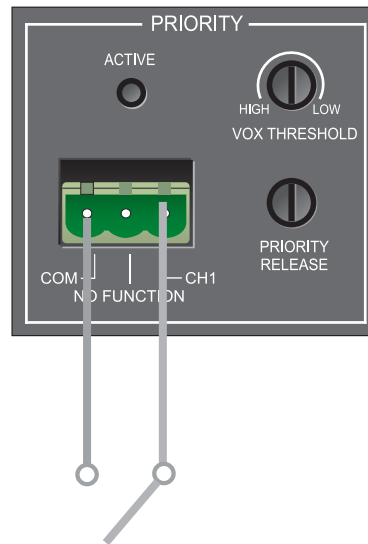

Figure 3.1 Priority Ducking Controls and Connectors
1. Connect a push-to-talk mic switch to the **Priority Connector** (Figure 3.1).